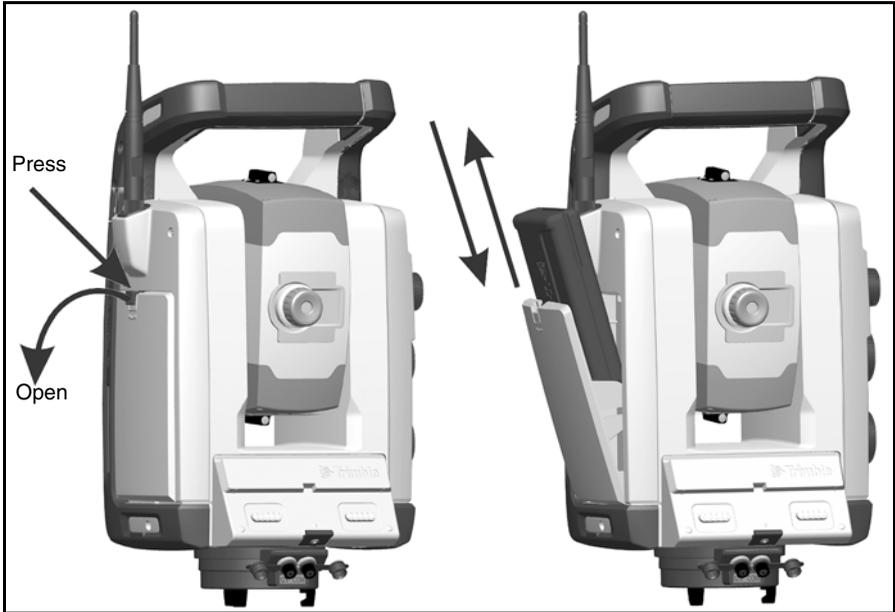

Figure 3.11 Removing and replacing the internal battery
2. Slide the battery into the battery compartment with the battery connectors positioned towards the top of the instrument. See figure 3.11